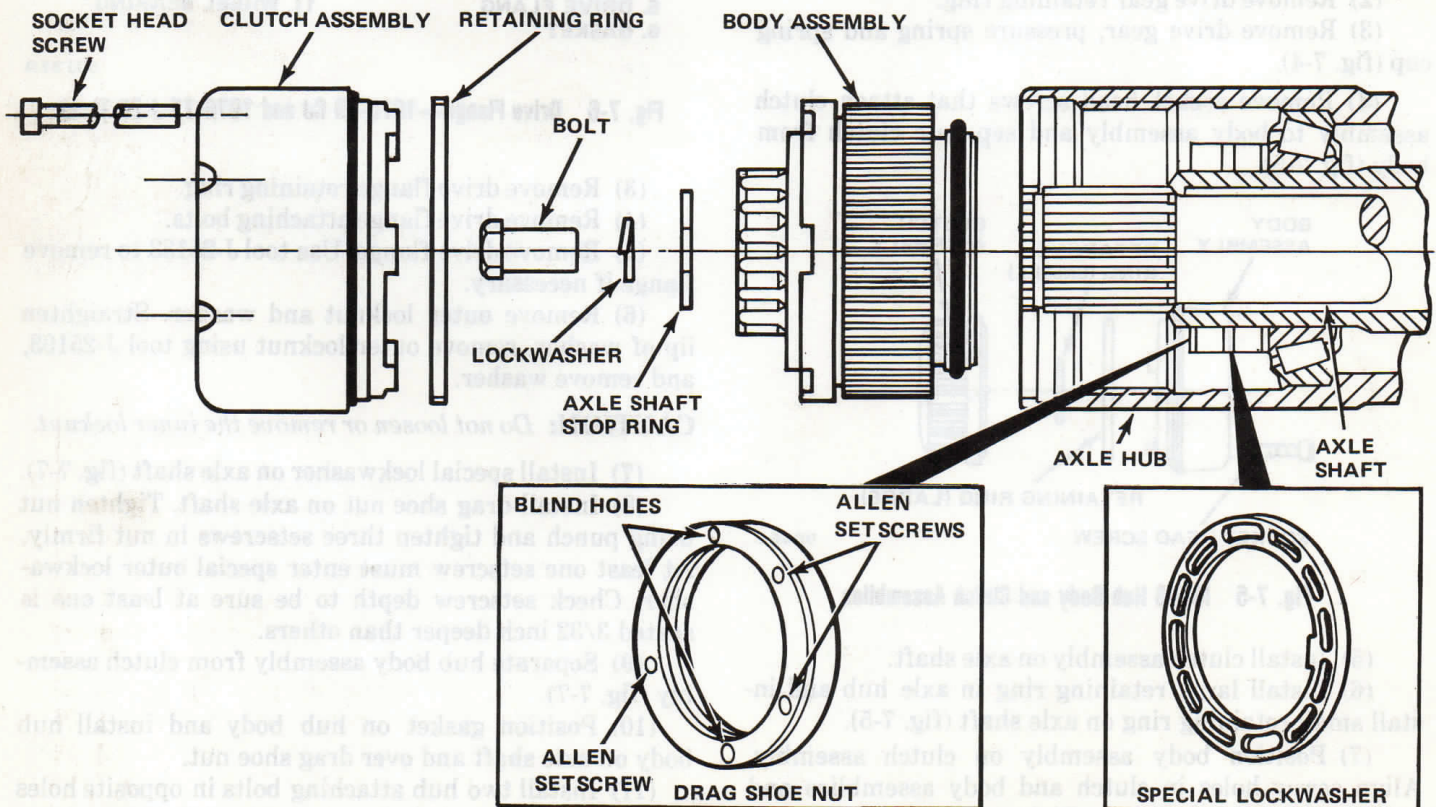

Fig. 7-8 M75 Hub Clutch and Body Assemblies
(6) Install special lockwasher on axle shaft (fig. 7-8).
(7) Install drag shoe nut on axle shaft. Use U-shaped tool supplied in kit to tighten drag shoe nut.
(8) Tighten all three setscrews in drag shoe nut firmly (fig. 7-8). At least one setscrew must enter special lockwasher. Verify this by checking setscrew depth. At least one setscrew should be seated approximately 3/32 inch deeper than others.
(9) Remove socket head screws attaching clutch assembly to body assembly and separate components (fig. 7-8).
(10) Install body assembly on axle shaft and into hub. Push firmly on body assembly to seat it on drag shoe nut.
(11) Install special bolt, lockwasher and stop ring on axle shaft (fig. 7-8). Tighten bolt to 48 foot-pounds (65 N•m) torque.
(12) Install special retaining ring in hub (fig 7-8). Install ring so thick edge of ring faces wheel bearings.
(13) Install clutch assembly in hub. Align screw holes in clutch and body assemblies and install socket head screws. Tighten screws to 55 inch-pounds (6 N•m) torque.
(14) Turn both hub control dials to Free position and rotate wheels. Wheels should rotate freely. If wheels drag, check hub installation. Also be sure control dials are fully engaged in Free position.
(15) Lower vehicle.